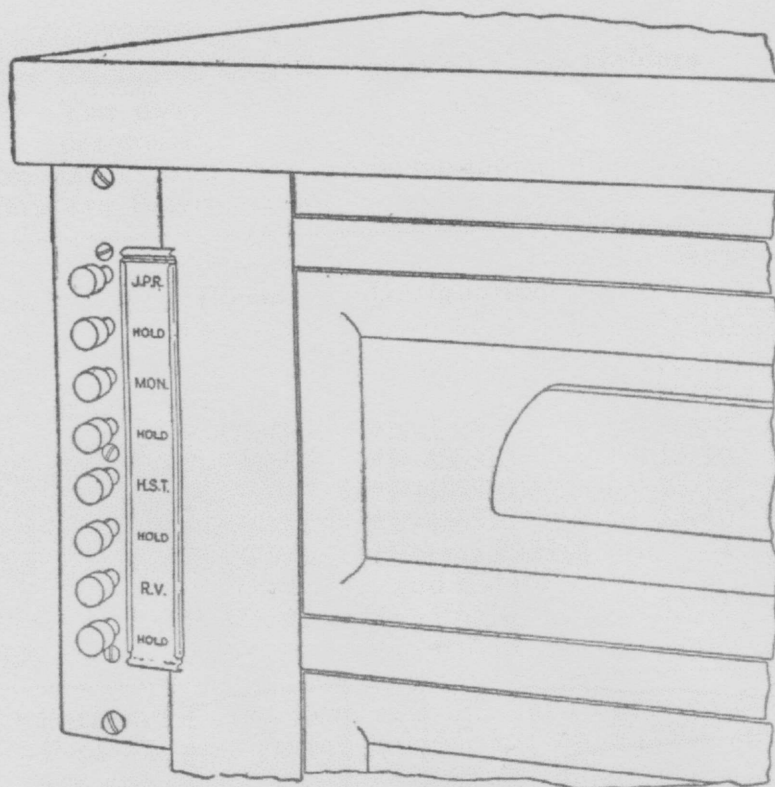

Fig. 1
2.03 The designation strips for 6002, 6009, 6011, 6012 and 6019 type keys consist of a metal strip with bent-over sides and turned-up ends which prevent the designation card from falling out yet permit easy removal of the card by slightly raising the card at the turned up end and pulling it by the end. A cellulose acetate window protects the designation card. Fig. 1 illustrates one of the strips (8AD) assembled on a 6019A key.